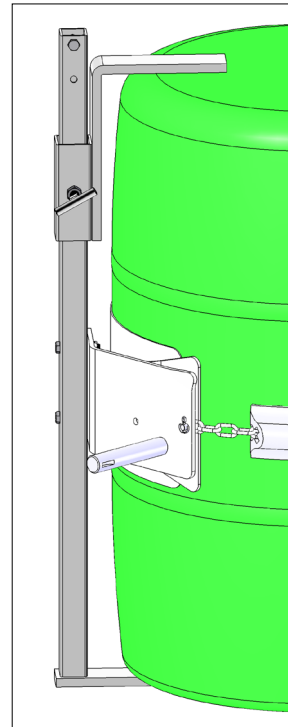

Figure 2.1
- 1. Stainless Steel Bracket Assembly Kit # 4556SS-P** is **required** to handle a RIMLESS plastic drum (figure 2.1), and is also recommended for a fiber drum. The Bracket adjusts for a 31" to 39" (79 to 99 cm) tall drum. You can also handle a rimmed drum with the Bracket installed.